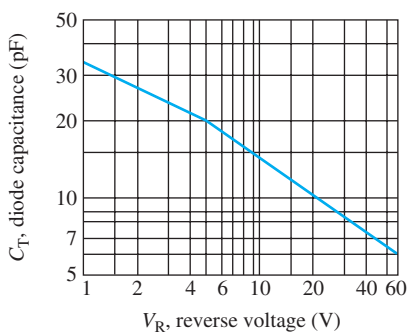

FIGURE 2-80
18. Figure 2-80 is a curve of reverse voltage versus capacitance for a certain varactor. Determine the change in capacitance if V_R varies from 5 V to 20 V.
19. Refer to Figure 2-80 and determine the value of V_R that produces a capacitance of 25 pF.